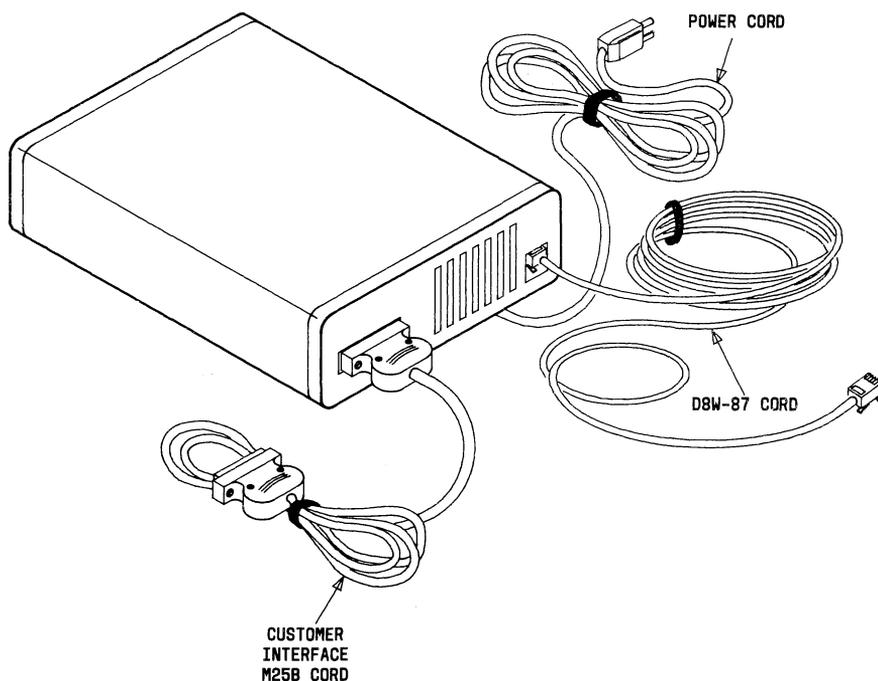

Fig. 13—70A Stand-Alone Mounting With Customer Interface Cord and D8W-87 Cord
5.03 The components required for installation of the trunk data module in a stand-alone mounting are a trunk data module circuit pack, a 70A stand-alone mounting, an M25B cord, and a D8W-87 cord (Fig. 13).
- (e) Connect the customer interface M25B cord to the customer interface connector (Fig. 13) on the trunk data module circuit pack.
- (f) Connect the D8W-87 cord to the DCP modular jack connector (Fig. 13) on the trunk data module circuit pack.
- (i) Connect the power cord of trunk data module (Fig. 13) to a 117 Vac outlet not controlled by a switch.